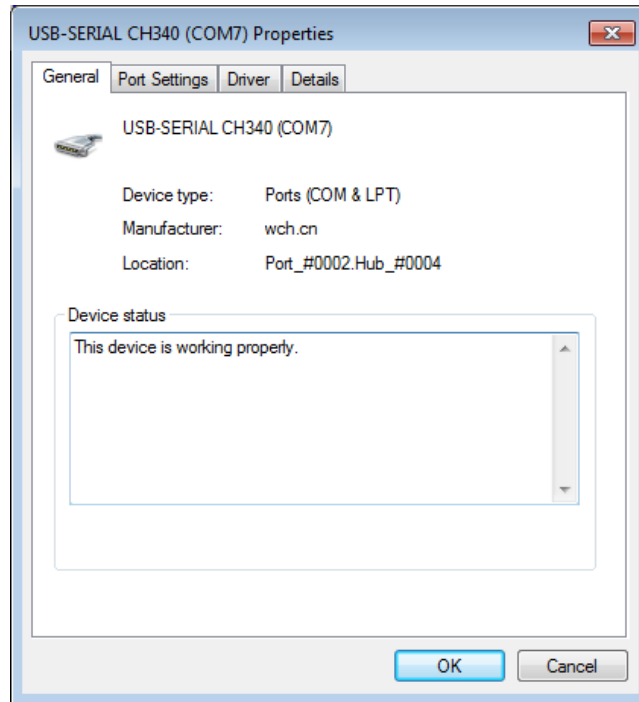

Figure 9
- b. Double click the adapter listed under Ports. The properties window will open (Figure 9).